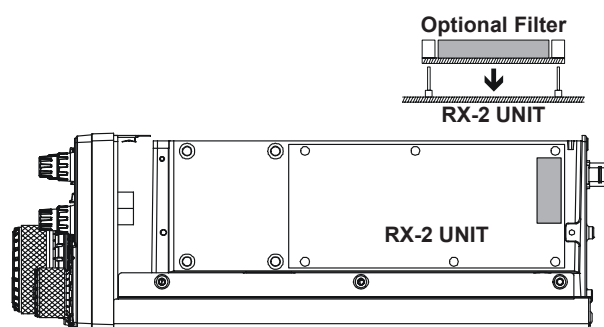

FIGURE 2
4. Refer to Figure 2 for the mounting location for the optional filter. Position the filter so that its connectors are aligned with the mounting pins on the board, and push it into place.